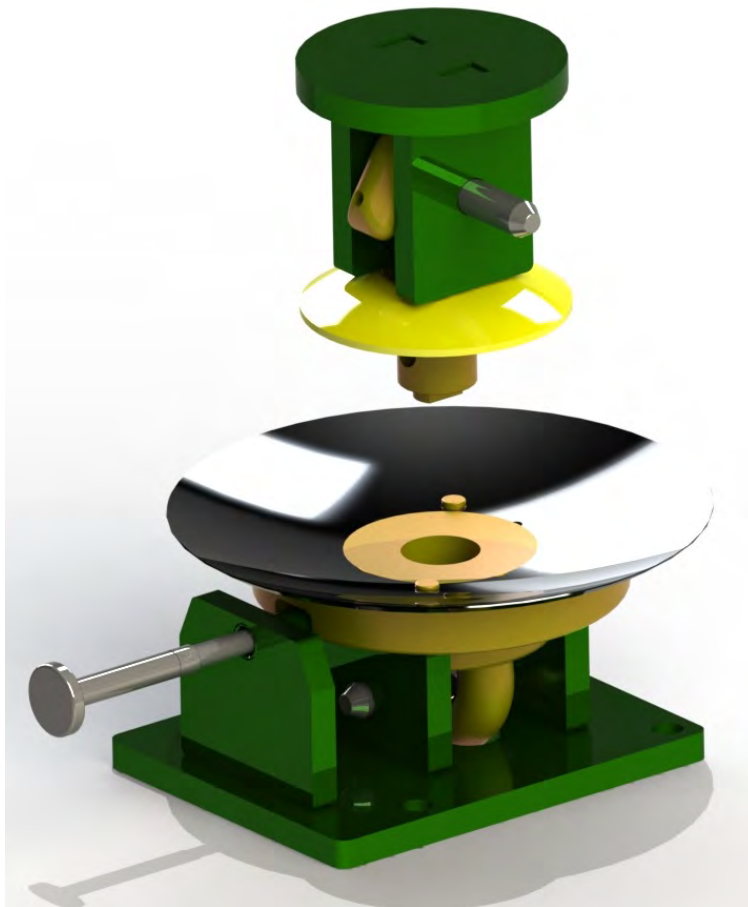

Figure 2: CL2 disc with press jig in Open position
1. Locate press jig in press (see Figure 2 for orientation).